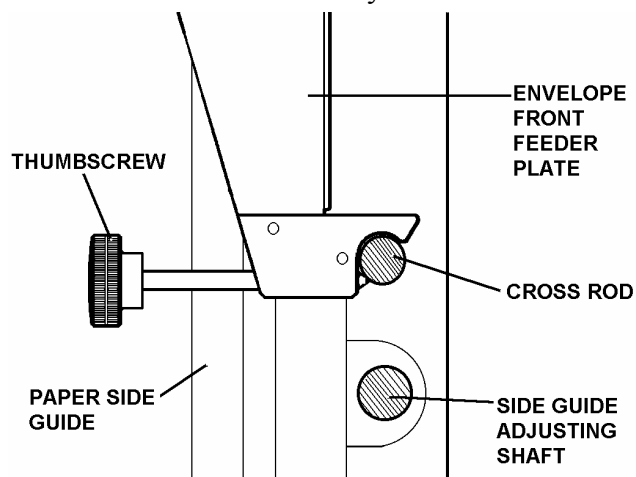

Figure 3
7. Roll the feeder up to the duplicator and adjust the height to match the mounting clamps on the cross rod on the duplicator. Tighten the thumbscrews on the front feed plate assembly to the cross rod. [Fig.3] Refer to page 5 of this manual for the “Feeder Stand Height Adjustment”. Take Care that the feeder is firmly attached to the cross rod on the press.